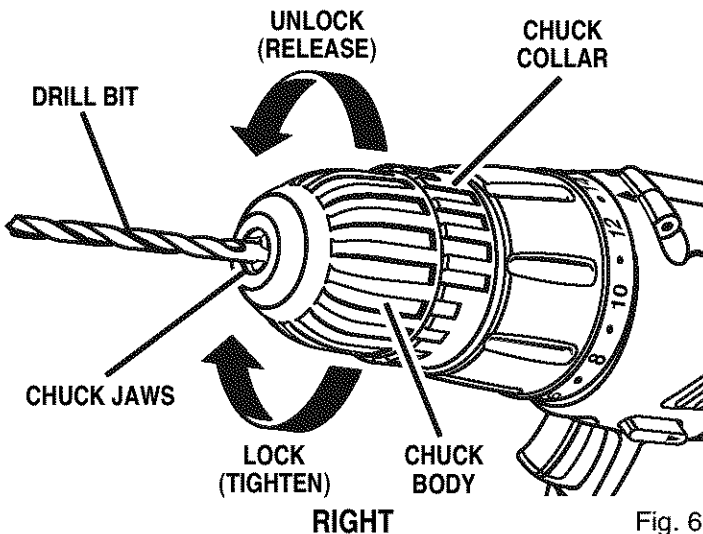

Fig. 6
See Figure 6.
- Insert drill bit straight into chuck the full length of the jaws as shown in Figure 6.